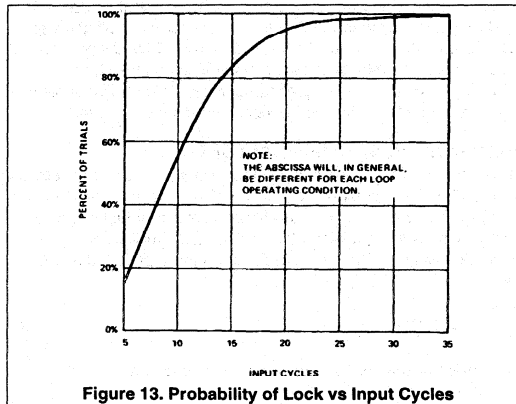

Figure 13. Probability of Lock vs Input Cycles
- Initial phase relationship between incoming signal and VCO — This is the greatest single factor influencing the lock time. If the initial phase is wrong, it first drives the VCO frequency away from the input frequency so that the VCO frequency must walk back on the beat notes. Figure 13 gives a typical distribution of lock-up times with the input pulse initiated at random phase. The only way to overcome this variation is to send phase information all the time so that a favorable phase relationship is guaranteed at  $t = 0$ . For example, a number of PLLs or tone decoders may be weakly locked to low amplitude harmonics of a pulse train and the transmitted tone phase related to the same pulse train. Usually, however, the incoming phase cannot be controlled.